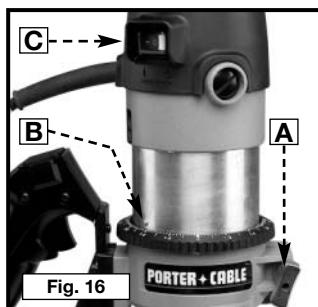

Fig. 16
1. Loosen the clamp screw (A) Fig. 16 to set the power unit in the base unit.
2. With the motor switch (C) Fig. 16 in the "ON" position, insert the motor unit into the base aligning the lower pin (B) with the groove in the base.